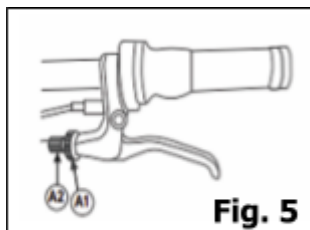

Fig. 5
- If the lever reaches the handlebar or lever travel is longer than desired, you can tighten the cable by turning the barrel on the lever A2 (Fig. 5) counterclockwise. Once tight enough, lock it into position by turning the A1 part of the barrel clockwise.